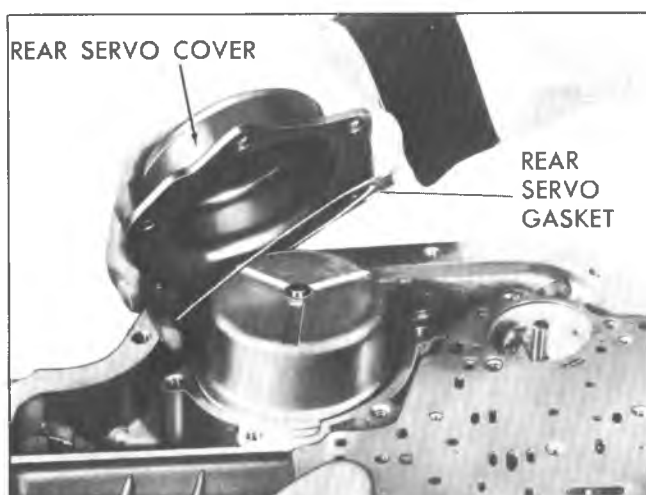

Fig. 149T-Installing Rear Servo Cover and Gasket
4. Install rear servo gasket and cover (fig. 149T).